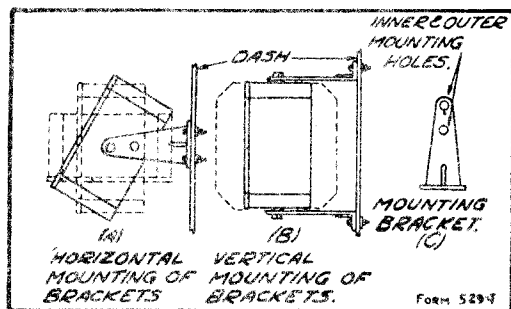

Fig. 5—Method of Mounting Speaker
The speaker-"B" eliminator is mounted on the back of the dash by means of two brackets, as shown in Fig. 5. Usually the space available will govern the location of the speaker and position of it on the mounting brackets. However, the matter of acoustics should be given careful consideration. One of the most desirable positions from the standpoint of
acoustics is that shown by the solid lines in Fig. 5 (A). In this position the sound waves travel in the most direct lines toward the listener. After the
After the position of the speaker is decided on, drill the four $\frac{1}{8}$ " holes required for the bracket mounting bolts. A template for these holes is supplied with the receiver. The holes are arranged in a rectangle. The centers of the holes, the small dimension are $2\frac{3}{8}$ " apart and the long dimension 10" apart. In Fig. 5 is shown how the brackets can be mounted horizontally (A) or vertically (B), and the different positions in which the speaker itself can be placed. There are two holes in each bracket as shown in Fig. 5 (C) which determine the distance of the speaker box from the dash. The grilled portion of the box at the front should face the listener.